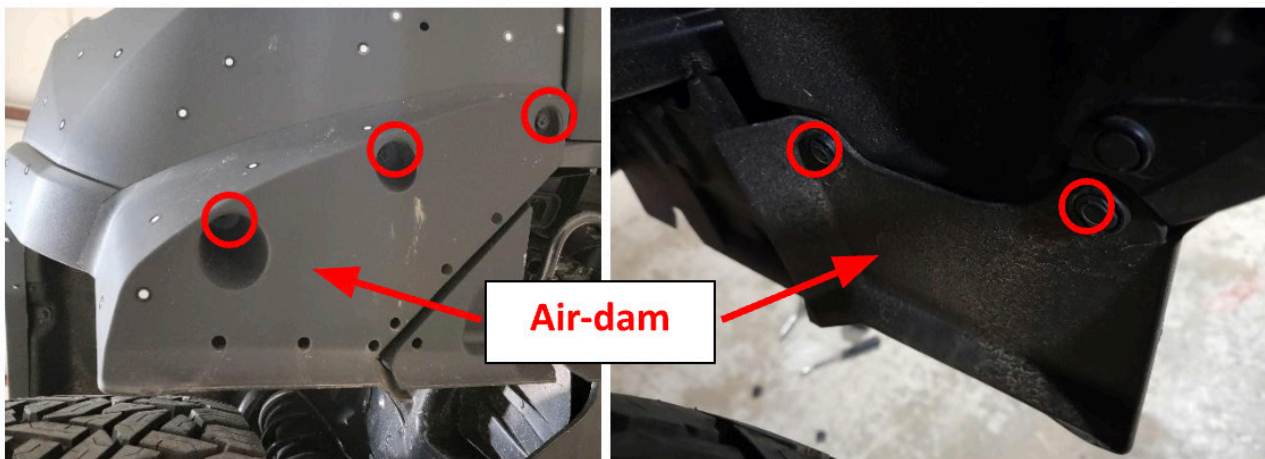

Figure 4-5
4. Using a 10mm socket wrench and panel pry tool, remove the three (3) screws on the bottom, and two (2) push pins in the wheel wells to remove the large outer air-dams from the bottom of the bumper. Figure 4-5.